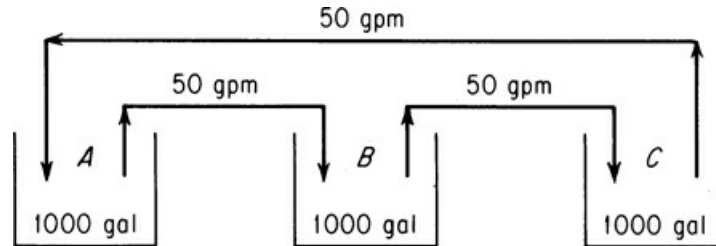

Figure P11.3.21
11.3.21 Tanks A, B, and C are each filled with 1000 gal of water. See Figure P11.3.21. Workers have instructions to dissolve 2000 lb of salt in each tank. By mistake, 3000 lb are dissolved in each of tanks A and C and none in B. You wish to bring all of the compositions to within 5% of the specified 2 lb/gal. If the units are connected A—B—C—A by three 50 gal/min (gpm) pumps: